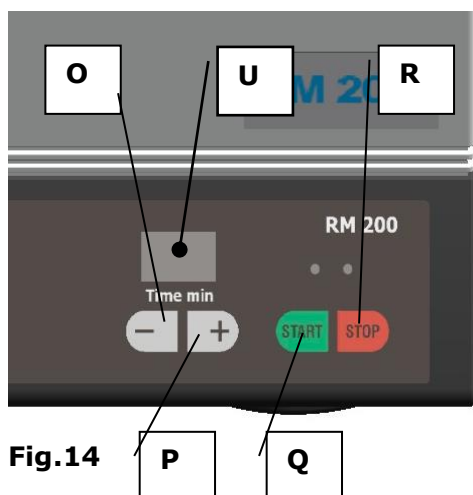

Fig.14
- Set the required milling time with the + / - buttons **O** and **P** **Fig.14**
- Press the stop button **R**. **Fig.14**
Precrushing: Fig.14
Fine milling: Fig.14